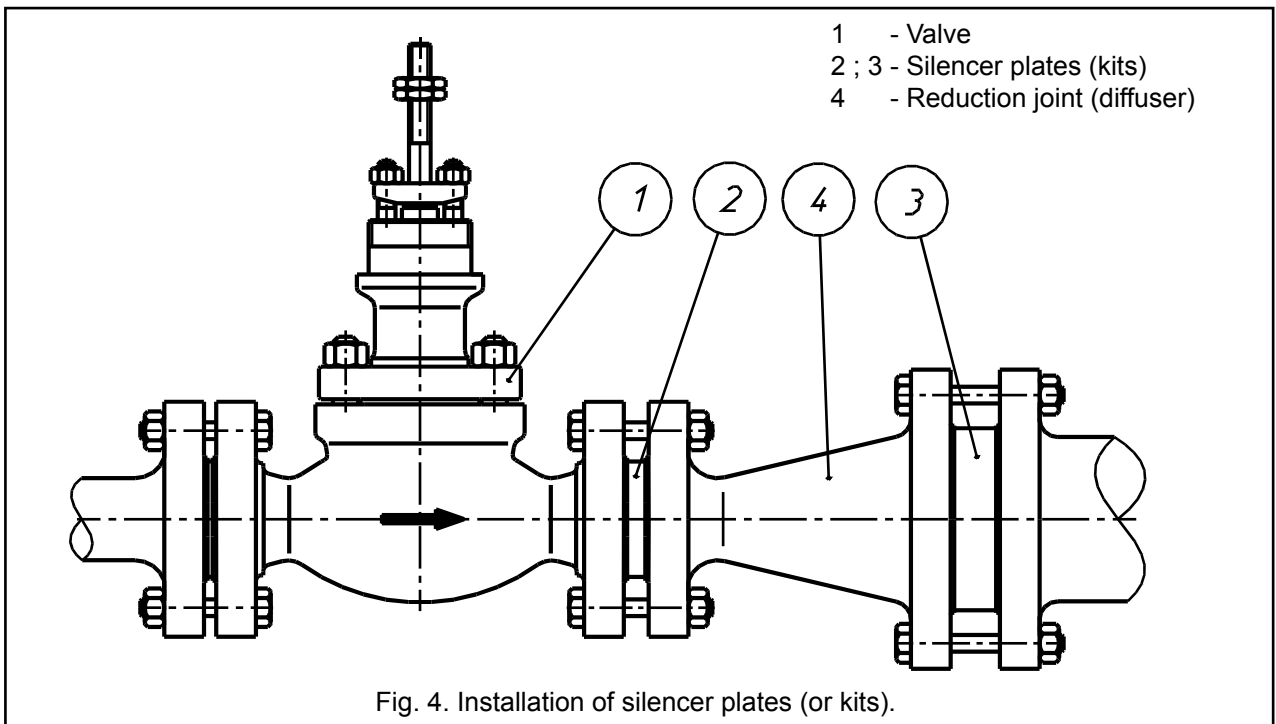

Fig. 4. Installation of silencer plates (or kits).
- reduction ends (diffusers) - (Fig. 4)